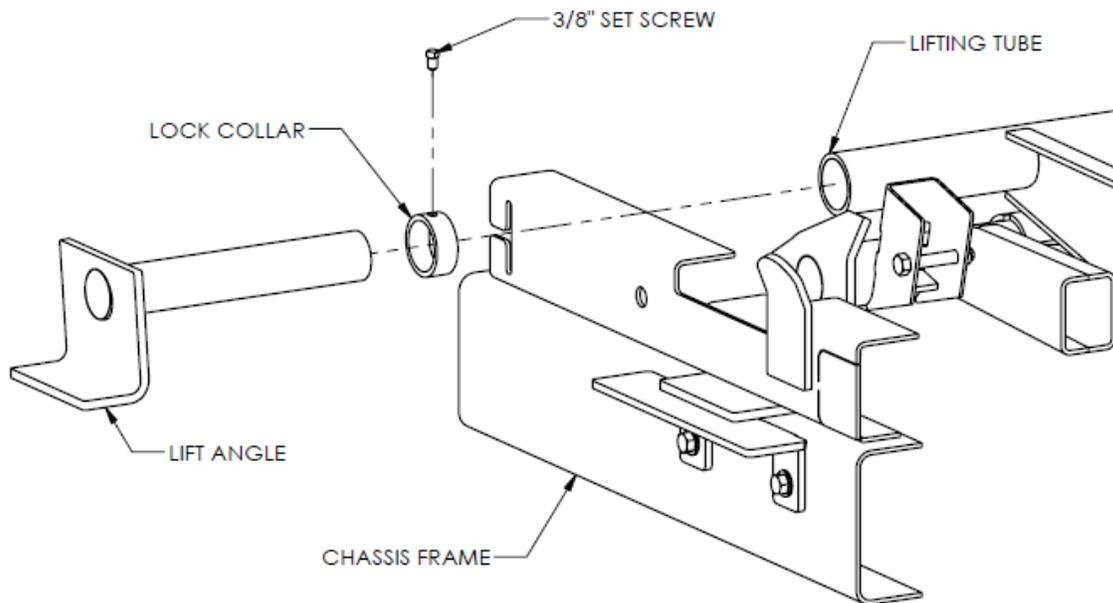

FIGURE 7
7. Slide a lock collar onto each lifting shaft. Slide a lifting shaft with collar into each end of the hoist lifting tube (*Figure 7*).
11. Install all grease fittings. For grease fitting locations, refer to Figure 7. Torque each grease fitting to 70 in. lb. Grease all grease fittings upon installation.